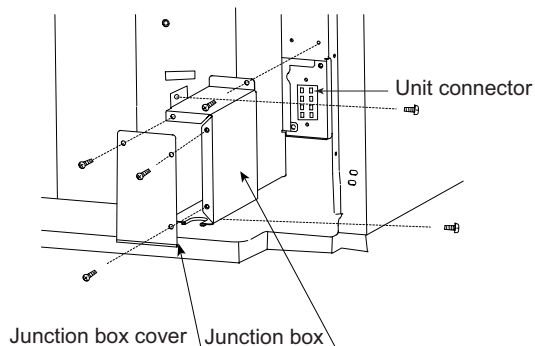

Fig. 14 – Junction Box Location
- Remove junction box cover by removing three screws from front. Remove junction box by taking out top, rear and side screws. See Fig. 14.